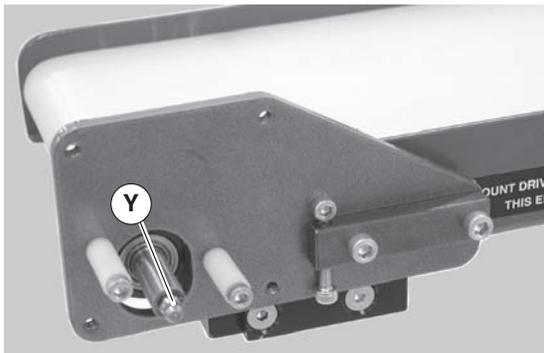

Figure 12
- Lubricate pulley bearing on drive side through drive shaft grease fitting (Figure 12, item Y).